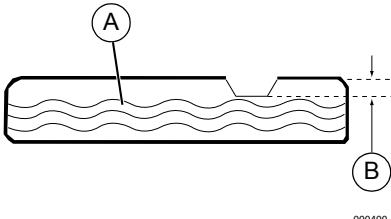

Figure 2-10. Add Recommended Fuel
- Slowly add recommended fuel (A). Do not overfill (B). See **Figure 2-10**.